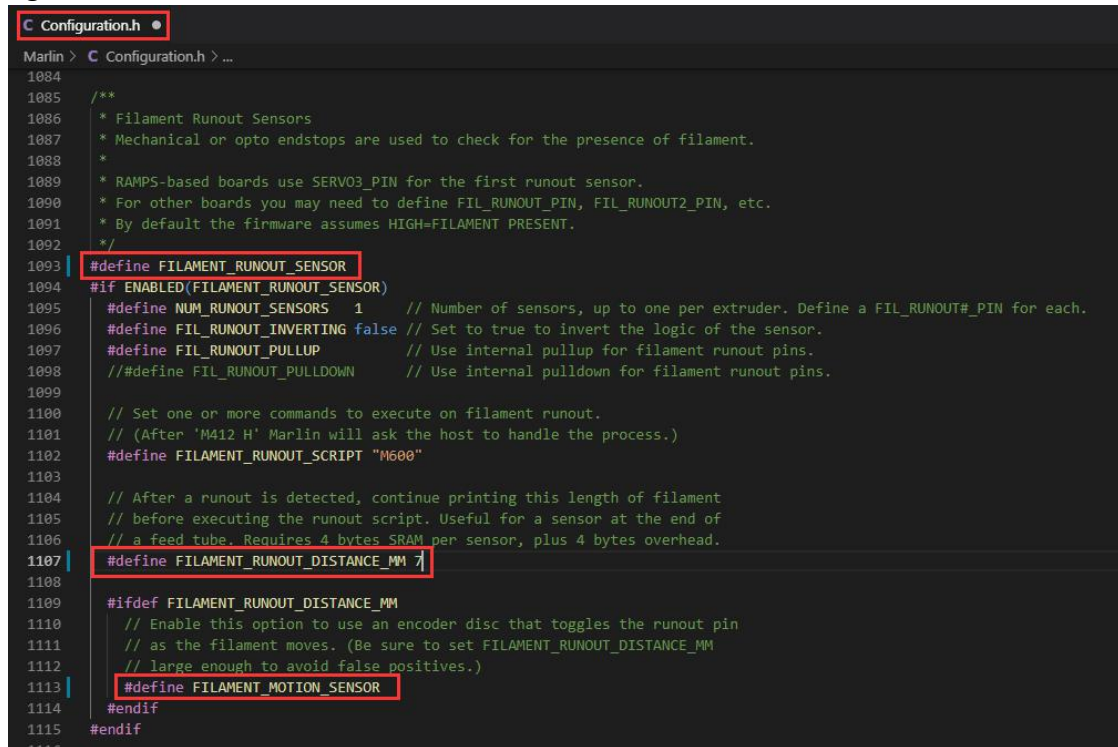

图 2
1) The firmware used in the product is marlin2.0.x. Use the screens 2004, 12864, TFT 24 (12864 mode), TFT35_V3.0 (12864 mode) can be used directly. According to our test, the motherboard that can use this sensor includes: SKR V1.3; SKR mini E3. SKR E3 DIP; MKS CEN L; MKS GEN V1.4. The module is being optimized and will be compatible with the touch screen later. The specific modification method is shown in figure 2